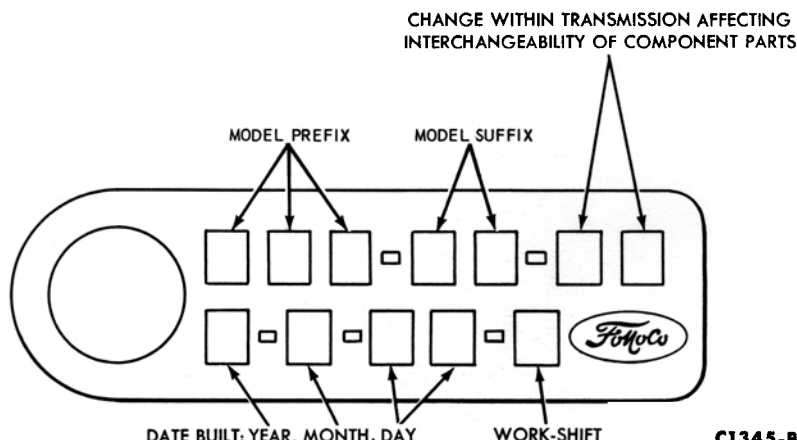

FIG. 1—Transmission Identification Tag
2. Remove the seal from the extension housing with the tool shown in Fig. 1.
**FIG. 1—Removing Extension Housing Seal****FIG. 2—Installing Extension Housing Seal****FIG. 3—Removing Extension Housing Bushing and Seal****REAR BUSHING AND SEAL REPLACEMENT**
An identification plate (Fig. 1) is attached to the upper right extension housing attaching bolt.